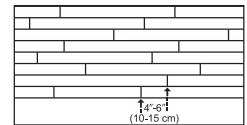

Figure 3
- **Tramex Concrete Moisture Encounter Meter** (Figure 2): Moisture readings should not exceed 4.5 on the upper scale. (Figure 3 shows an unacceptable reading of over 4.5) Concrete Moisture Meters give qualitative reading results-not quantitative ones. These results are a quick way to determine if further testing is required.
- Be attentive to staggering the ends of the boards at least 4"-6" (10-15 cm) when possible, in adjacent rows (Figure 3). This will help ensure a more favorable overall appearance of the floor.
- End-joints of adjacent rows should be staggered a minimum of 4"-6" (10-15 cm) when possible, to ensure a more favorable overall appearance (Figure 3).
- Check for a tight fit between all edges and ends of each plank. End-joints of adjacent rows should be staggered 4"-6" (10-15 cm) when possible, to ensure a more favorable overall appearance (Figure 3).